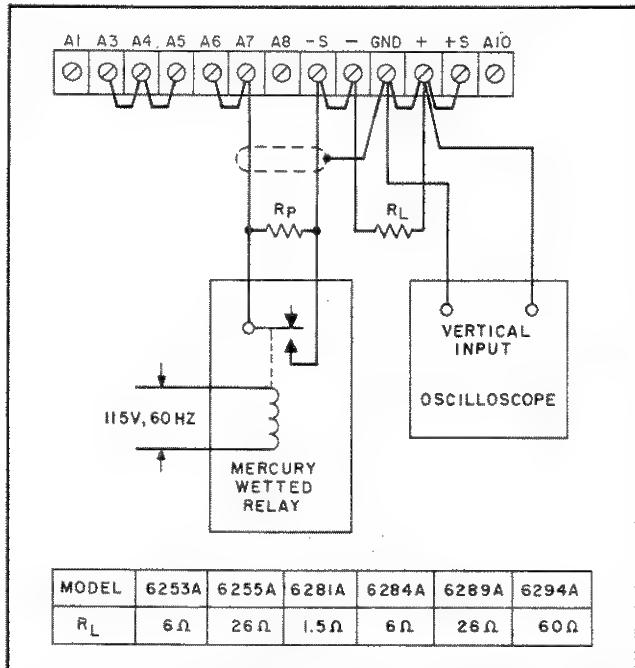

Figure 5-10. Constant Voltage Programming Speed, Test Setup
5-32 Programming Speed. This measurement is made by monitoring the output voltage with an oscilloscope while rapidly changing the remote programming resistance. For up-programming, the remote resistance is varied from zero ohms to the value that will produce maximum output voltage; and for down-programming, the remote resistance is varied from the value that will produce maximum output voltage to zero ohms. To check the up-programming speed, make the connections indicated in Figure 5-10; for down-programming, simply remove RL.
1. Restrap the rear barrier strip as indicated in Figure 5-10. Note that the jumper between +S and A10 is removed. This disconnects the output capacitor C20 to increase the programming speed. A minimum amount of output capacitance (C19) is permanently wired to the output and should not be removed, because the supply could oscillate under certain load conditions. The programming speed increases by a factor of from 10 to 100 when the output capacitor C20 is removed.
2. Connect the relay, oscilloscope, and programming resistor  $R_P$  as illustrated in Figure 5-10. Select the value of the programming resistor that will produce maximum output voltage of the supply. This value is obtained by multiplying the programming coefficient (200 ohms/volt, 300 ohms/volt for Model 6294A) by the maximum rated output voltage of the supply.